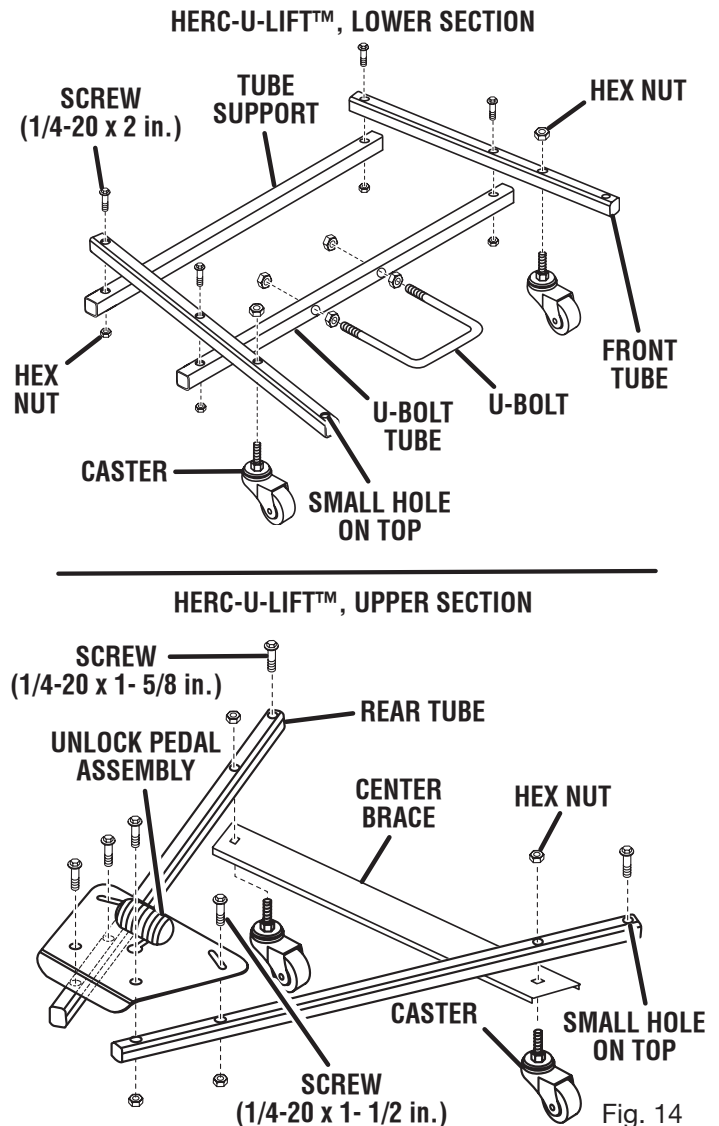

Fig. 14
See Figures 14 - 16.
- Place the caster up through the hole in the center brace then through the rear tube as shown in figure 14. Secure caster using the hex nut with serrated washer. Repeat for other side.
- Place the caster up through the hole in the lower section as shown in figure 14. Secure caster using the hex nut with serrated washer. Repeat for other side.